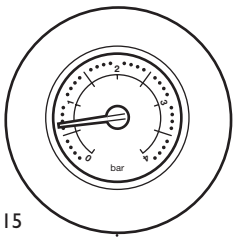

Fig. 15
2. With the system cold and the boiler not operating the pressure should be between 0.5 and 1.0 bar. During operation the pressure should not exceed 2.5 bar, and will normally be between 1.0 and 2.0 (Figs. 15 & 16).